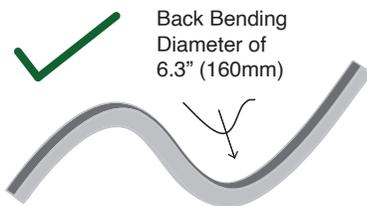

Fig. 1
- 1) Do not (top and back) bend past a diameter of 160mm/6.3" to avoid damage to internal components of the product (Fig.1).